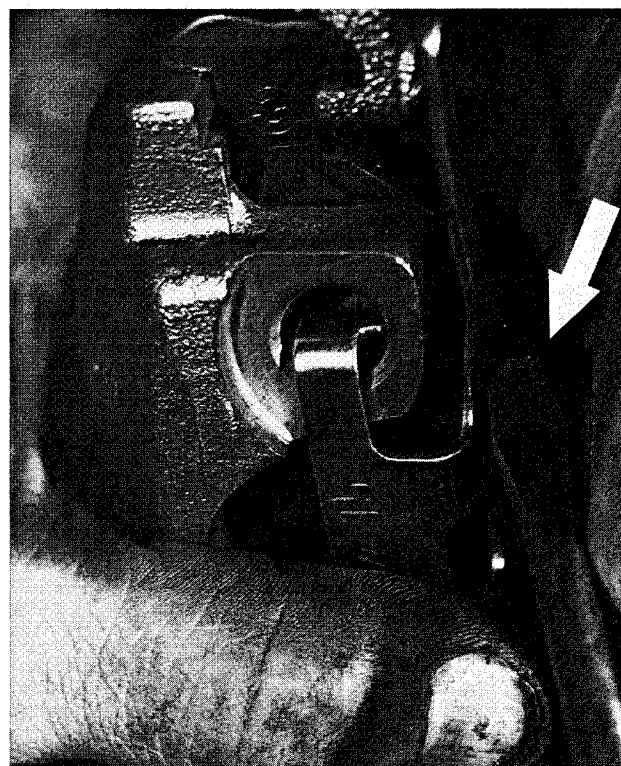

Fig. 4. Removing anti-rattle clip by unhooking at top and bottom. Use screwdriver as an aid (arrow).
4. Remove anti-rattle clip from caliper. See Fig. 4.